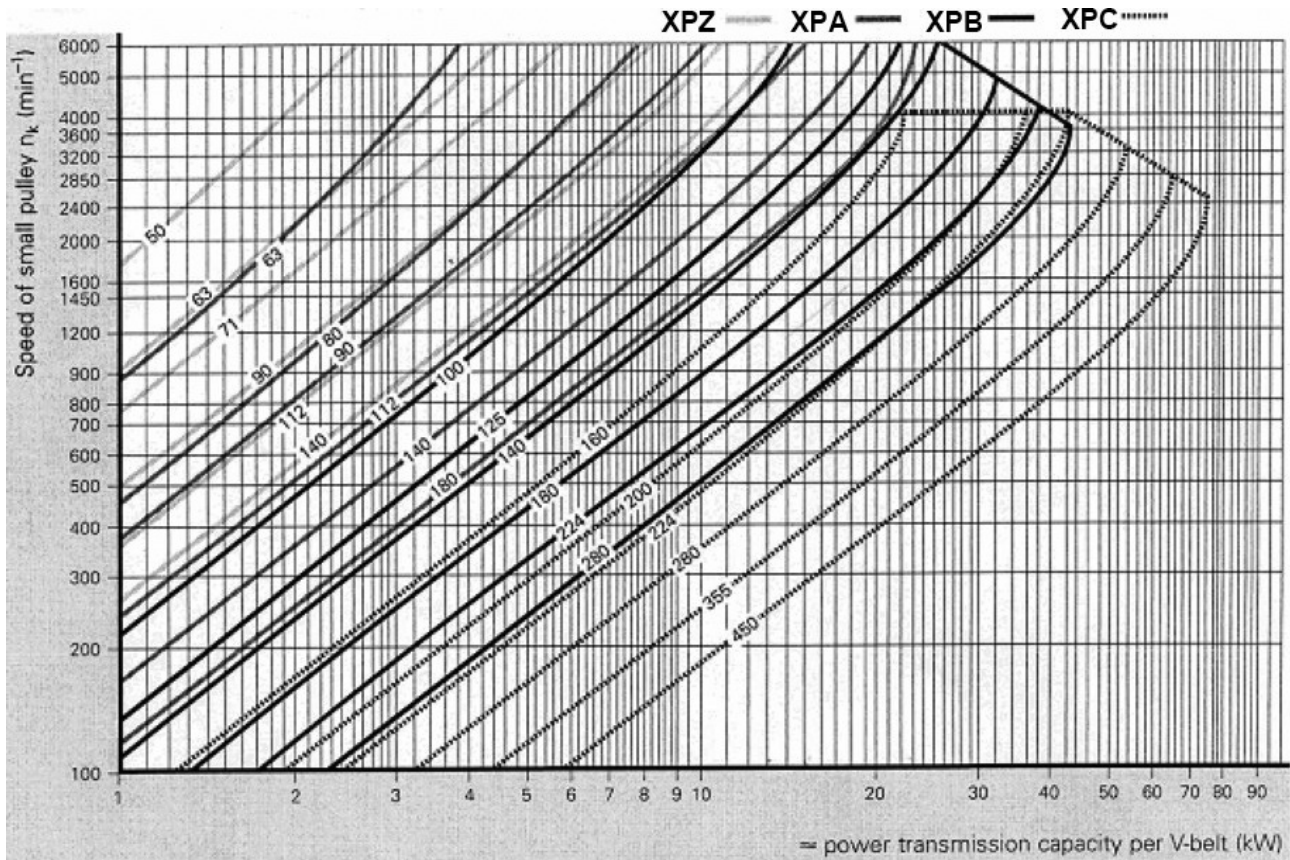
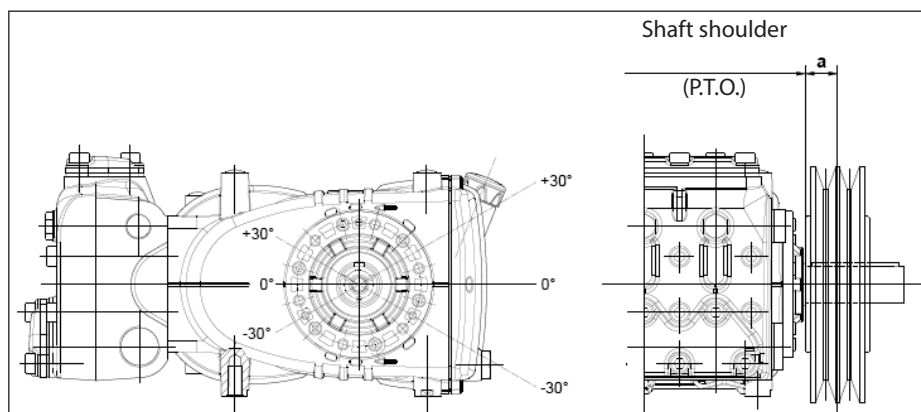

Fig. 7
Fig. 10
For this pump model, we recommend use of 2 XPB belts (16.5x13 serrated). Use an XPC profile only for long durations. Both the characteristics and transmissible power of each belt can be verified in the diagram in Fig. 7, in relation to the number of rpm normally declared by the manufacturer. Minimum duct pulley diameter (on pump shaft): ≥ 160 mm. The radial load on the shaft must not exceed 3000 N (value necessary for Layout definition). The transmission is considered adequate if the load is applied to a maximum distance **a=30 mm** from the shaft shoulder (P.T.O.) as shown in Fig. 10.
- b) Use high performance belts – for example **XPB** instead of **SPB** – as a lower quantity of belts for the same transmitted power may be necessary and a consequent shorter resulting distance compared to the shaft shoulder (P.T.O.) "a" of Fig. 10.